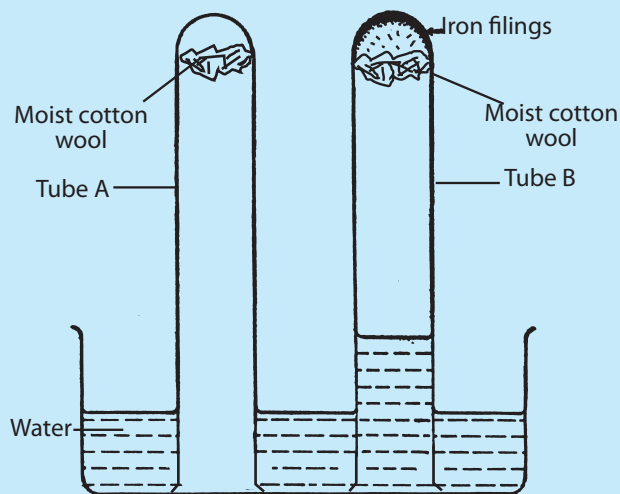

Figure 8.14 ▲
- Take two test tubes. In one of them (A) trap some moist cotton wool. In the other tube (B), trap a similar plug of moist cotton wool with some iron filings on it.
- Take some water into a beaker and dip the two inverted test tubes A and B in water as shown in Figure 8.14.